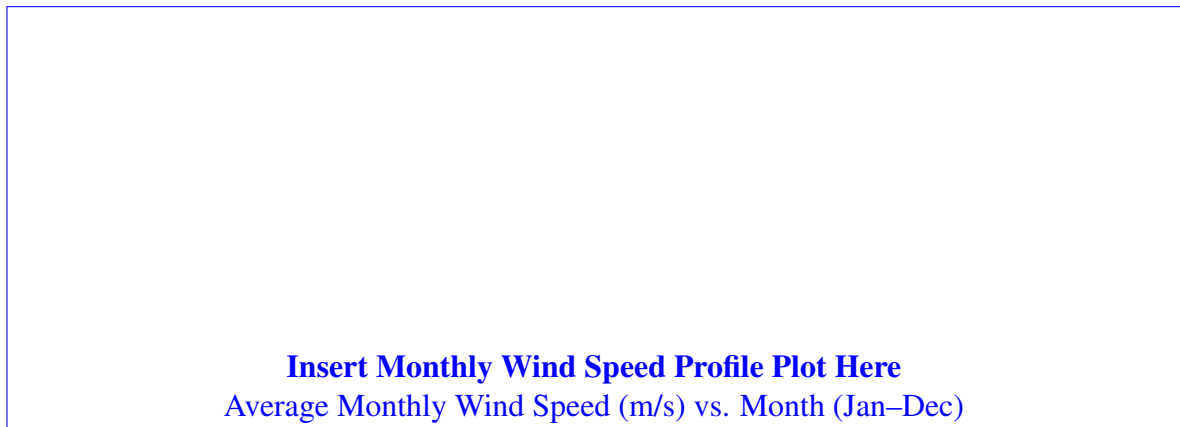

Figure 3: Monthly average wind speed at hub height across the 12 calendar months.
2) Wind-Solar Seasonal Complementarity: Comparing the monthly wind speed profile with Figure 3 (Solar Yield), identify the month where solar yield best compensates for a seasonal drop in wind speed.	Month
2) Peak Curtailment Risk: Comparing Figure 3 (Solar Yield) with Figure 1 (Monthly Demand), identify the month where the highest curtailment of solar production is expected.	Month